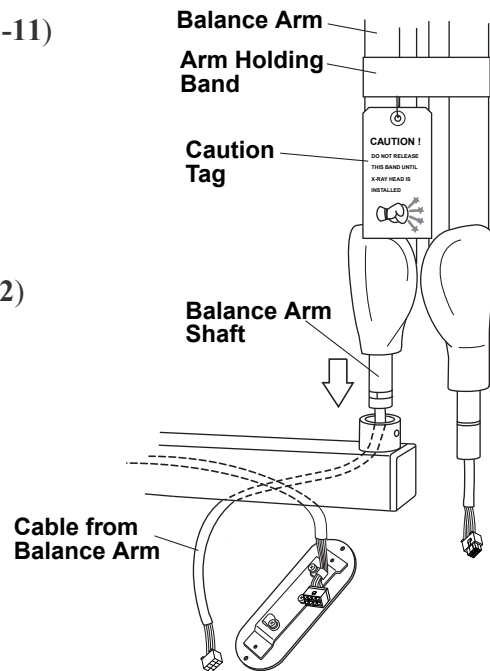

Fig.3-12 Balance Arm Installation
3. Route the cable with 8P connectors from the balance arm shaft through the horizontal arm. Insert the balance arm into the horizontal arm. The cable should be fed through the bottom cover opening on the bottom of the horizontal arm. (Fig.3-12)
5. Re-attach the bottom cover to the horizontal arm with two screws. (Fig. 3-12)